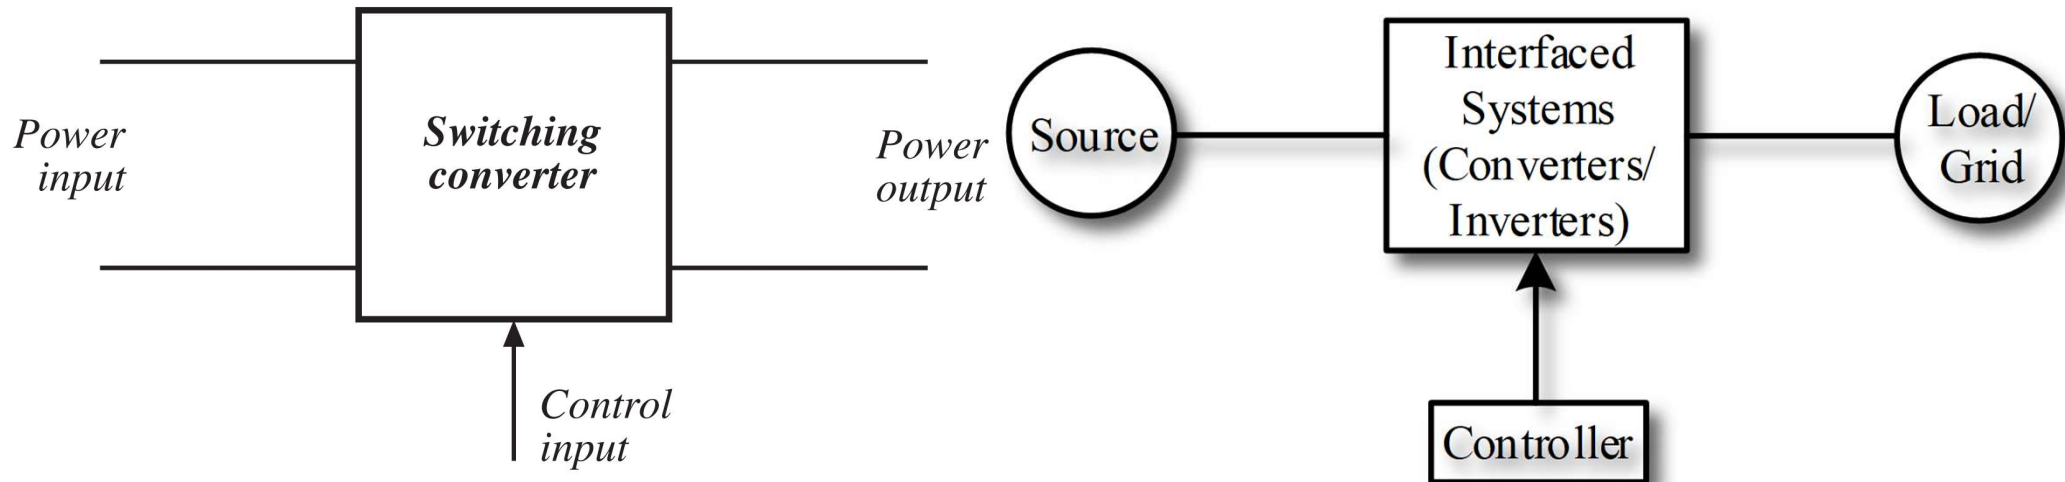

Figure 1-1: Power conversion between the source and the load by power electronics interfaces.
- The controller shown in Figure 1-1 allows management of the power transfer process in which the conversion of voltages and currents should be achieved with as high energy-efficiency and high power density as possible.